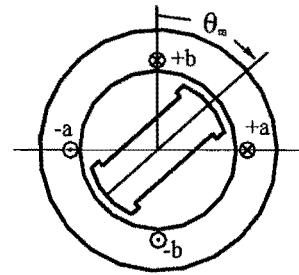

Fig. Q7-1
**Q7, 10 pts:** The torque of a 2-phase permanent-magnet stepping motor of the form in Fig. Q7-1 can be expressed as: